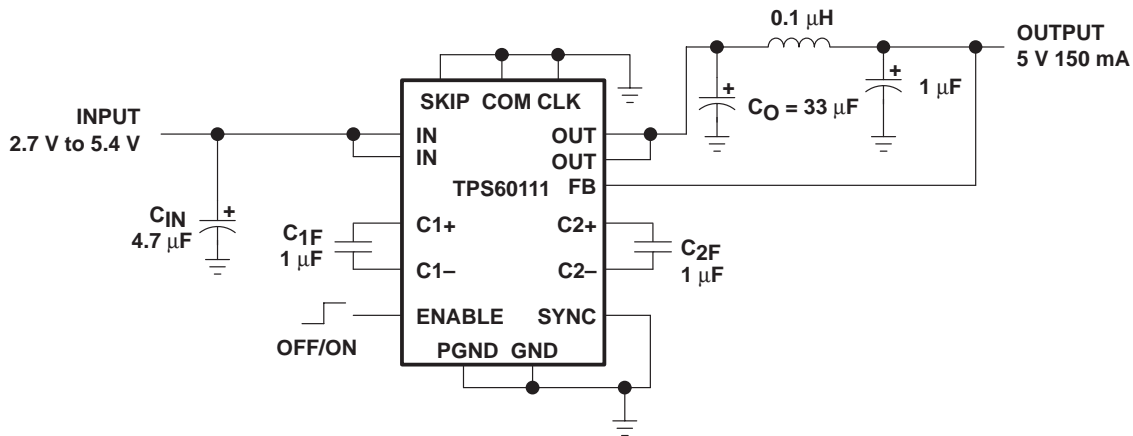

Figure 30. TPS60111 With LC Filter for Ultra Low Output Ripple Applications
For applications where extremely low output ripple is required, a small LC filter is recommended. This is shown in Figure 30. The addition of a small inductor and filter capacitor will reduce the output ripple well below what could be achieved with capacitors alone. The corner frequency of 500 kHz was chosen above the 300 kHz switching frequency to avoid loop stability issues in case the feedback is taken from the output of the LC filter. Leaving the feedback (FB) connection point before the LC filter, the filter capacitance value can be increased to achieve even higher ripple attenuation without affecting stability margin.